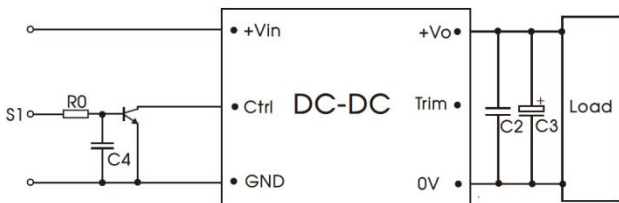

Fig.2
- The recommended circuit for Ctrl function please refer to Fig.2.